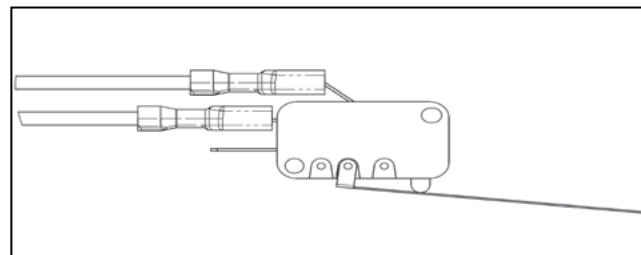

Figure 3
2.3.2 AS SUPPLIED - Alarm Function - Normally Open Wiring - (Figure 3)